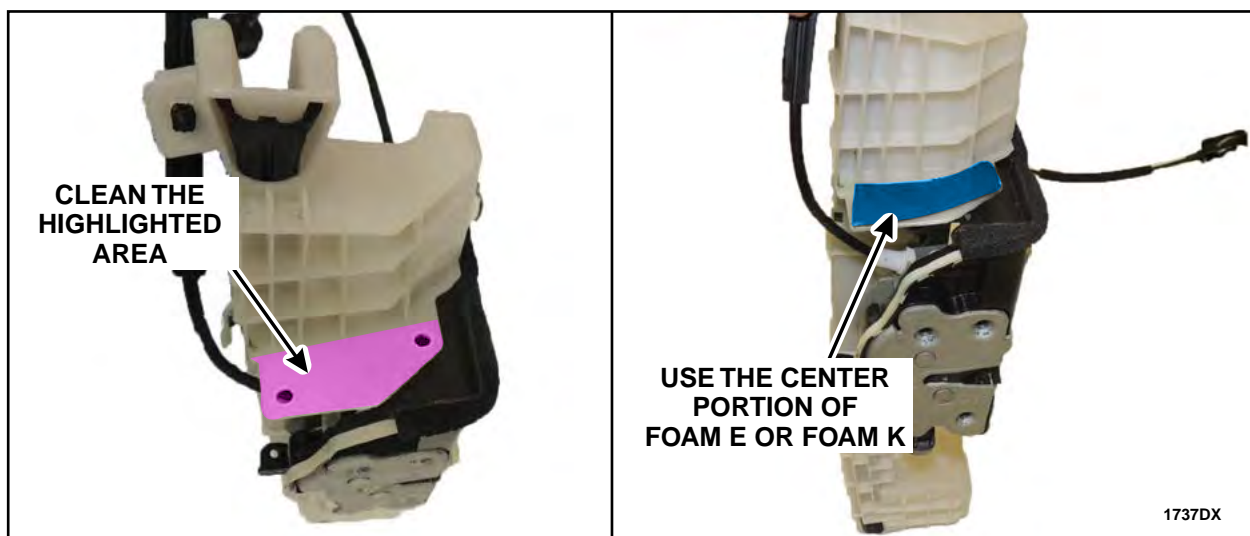
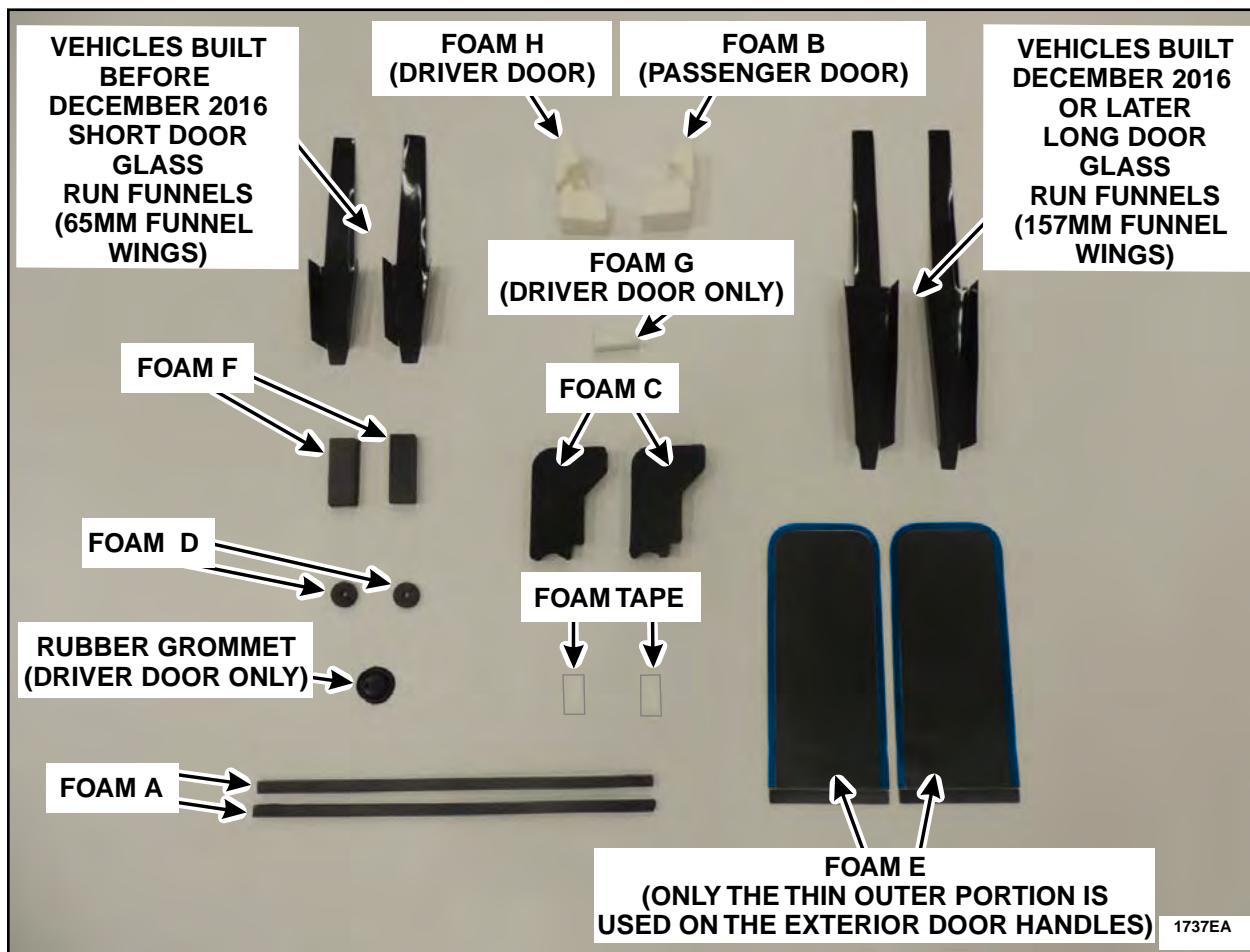

FIGURE 3
FIGURE 12
5. Clean the surface area where the water shield covered with isopropyl alcohol and a clean shop cloth. Use part of the center portion of Foam E (refer to Figure 12) or some locally acquired body tape to seal the holes the attaching clips were previously installed in. See Figure 3.
NOTE: The parts being installed in this procedure are not labeled. Refer to Figure 12 for component identification.